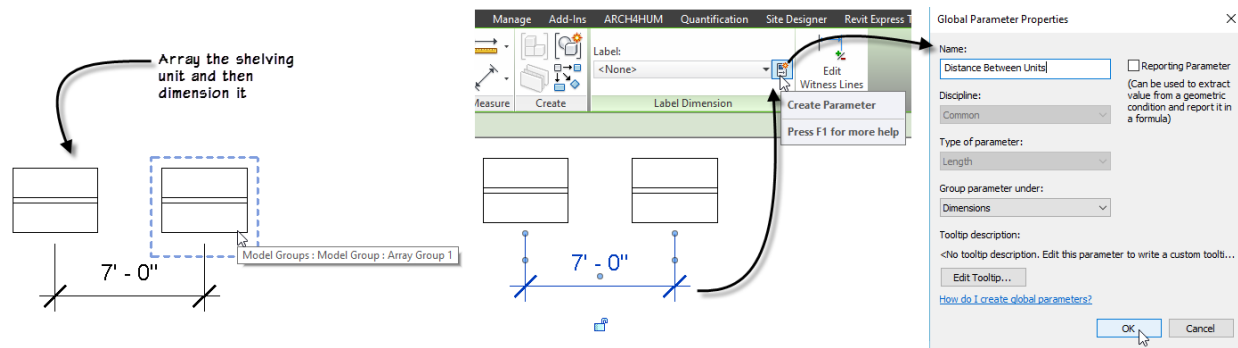

Figure 46
7. Name the parameter: **Distance Between Units** and then click OK (see Figure 46).